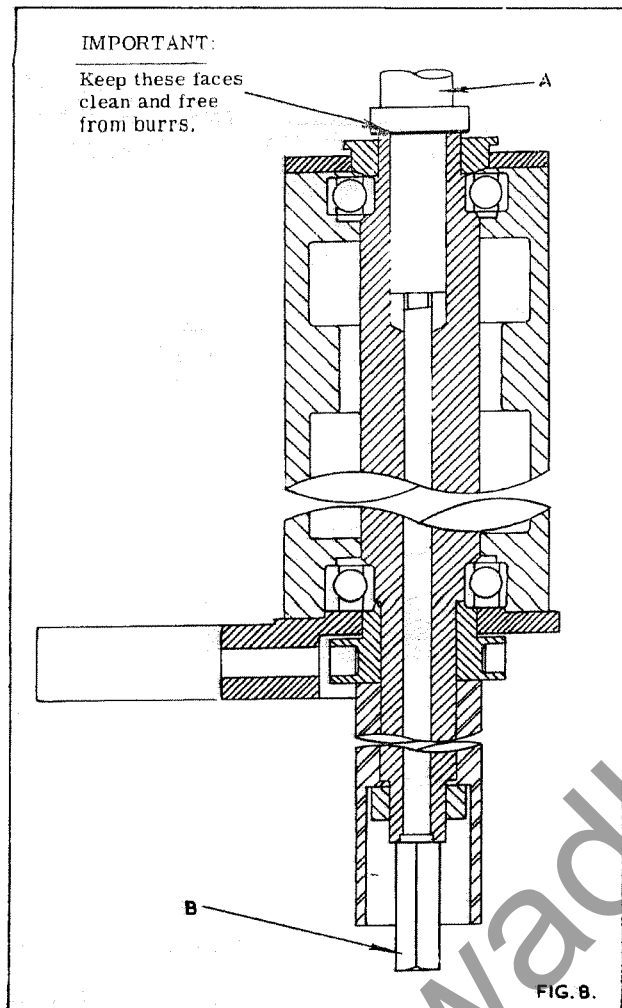

FIG. 8.
1. Insert the work spindle "A" in fig. 8 into the main spindle through the hole in the table top. Great care should be taken to ensure that the work spindle and main spindle seatings are completely free from all burrs, dirt and rust. A thin film of oil should be put on the work spindle seatings before inserting. Line the peg in the work spindle with the slot in the main spindle and press spindle onto seating.